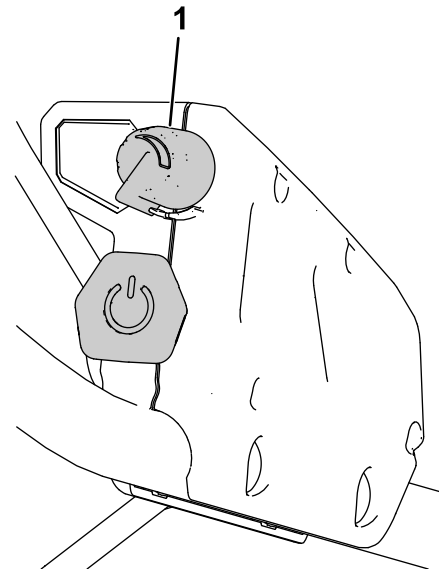

Figure 15
**Note:** To adjust the ground speed, adjust the speed-control knob (Figure 15).